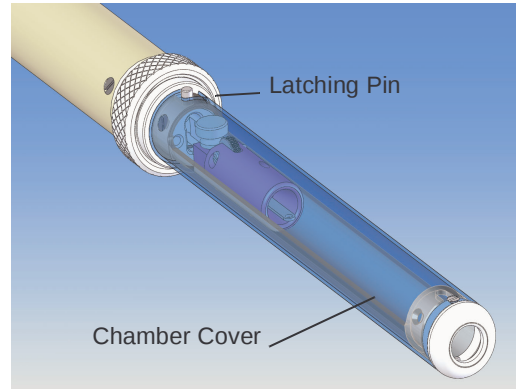

Figure 2. Chamber Cover
5. Remove the cover from the animal chamber (Figure 2) using a counter-clockwise (as viewed from the front) slight twist until the pin unlatches.